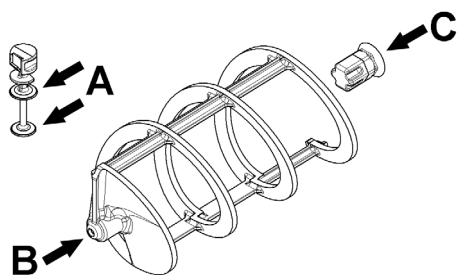

figure 16
- 2 Lubricate the tap piston, the hexagonal joint and the mixer at the points indicated in figure 16, using only the grease that